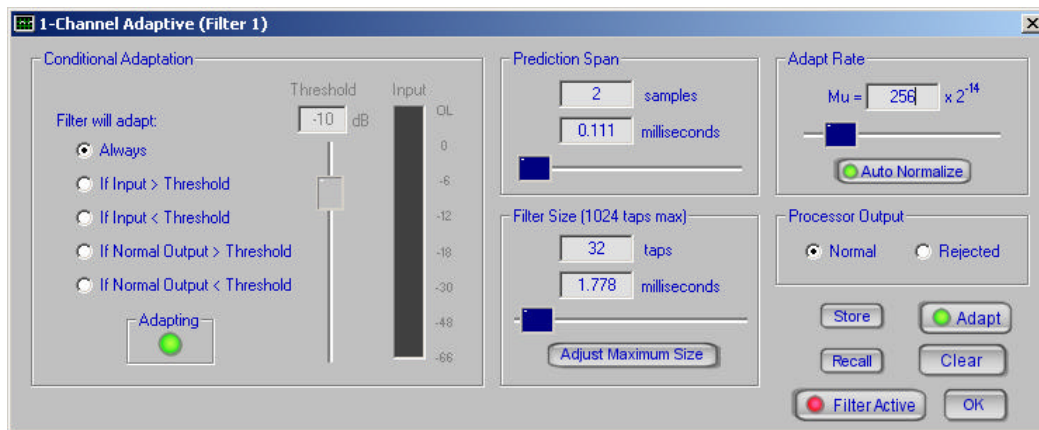

Figure 3-8 Tutorial 1-Channel Adaptive Filter Control Window
22. Click on the **Control** button in the Filter 1 block. The window in Figure 3-8 will appear:
23. Use the mouse to set all controls to match the settings shown in Figure 3-8*. Do not click on the **OK** button at this time.